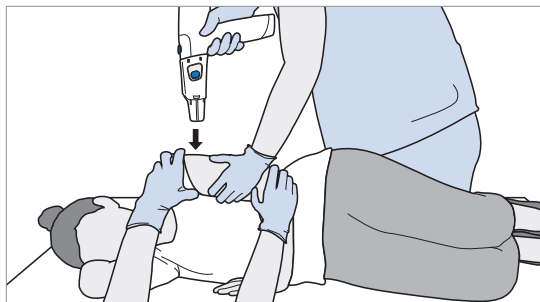

Figure 60 Deltoid shown. Patient shown in lateral position.
3. Insert the needles fully by firmly pushing the Handset Array straight into the injection site (deltoid or anterolateral quadriceps) (see Figure 60).